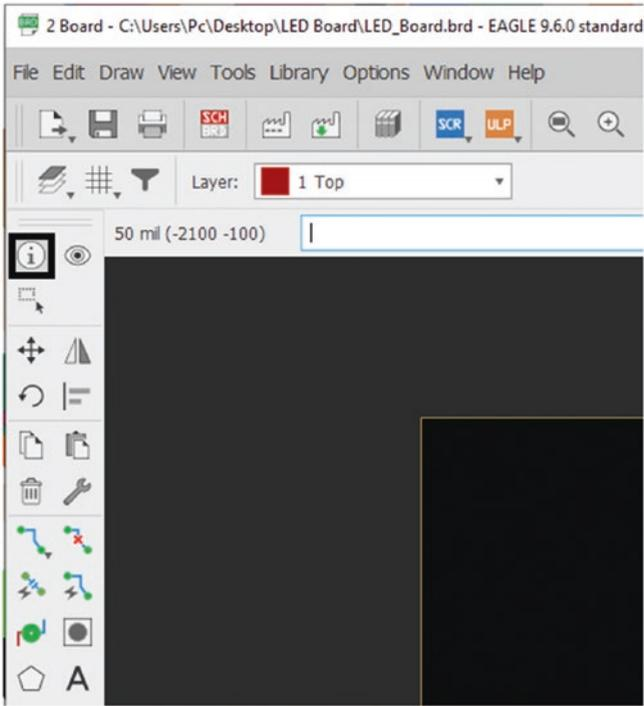

Figure 5-54. Select the “Info” button
3. Once the Board Layout window is open, click the “Info” button. See Figure 5-54.